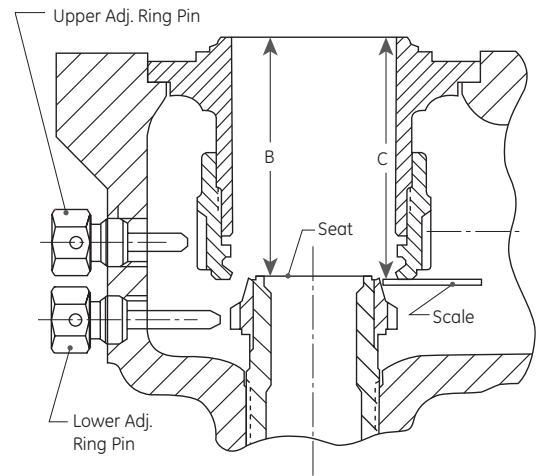

Figure 14: Guide - Bushing Seat Assembly
- Measure from the top of the guide to the bushing seat (Dimension B, Figure 14) with a depth micrometer or other suitable measuring device. **Record Dimension B.** Place a scale or other thin flat metal surface against the lower face of the upper adjusting ring and measure from the top of the guide to the face of the upper adjusting ring (Dimension C, Figure 14). **Record Dimension C.**